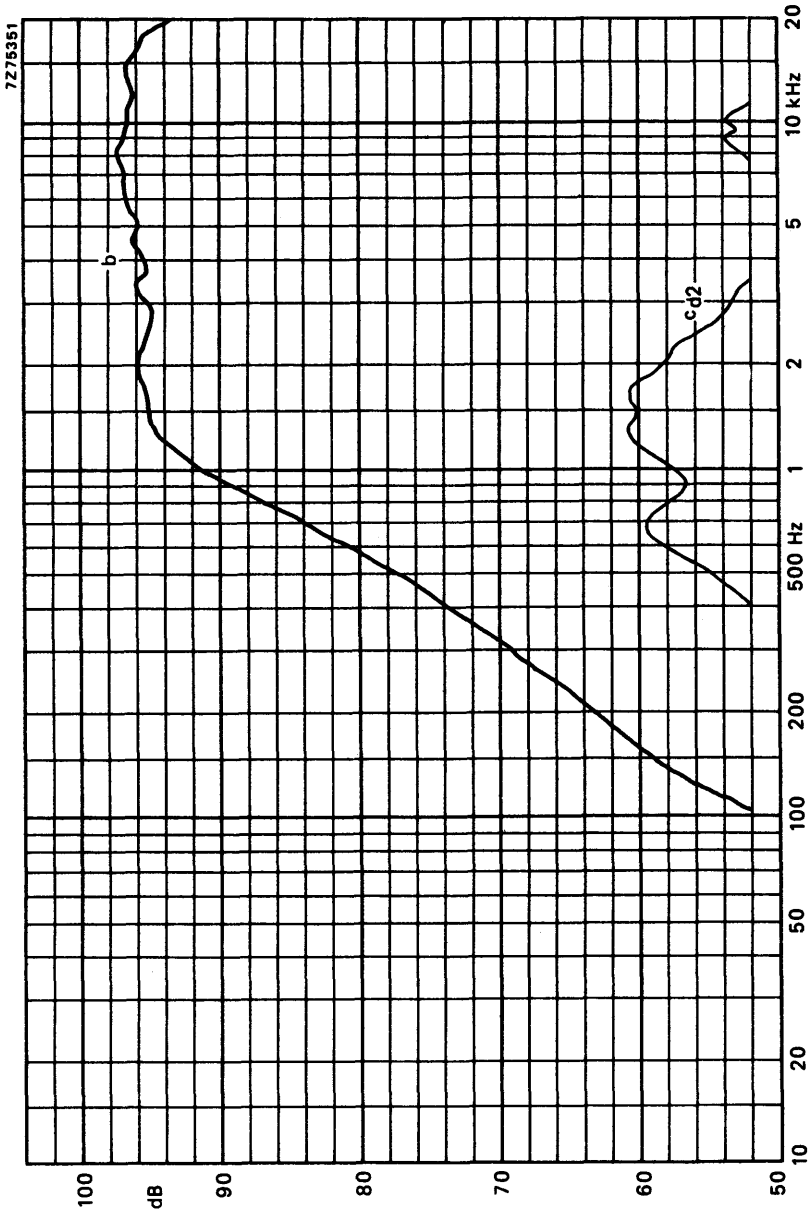

Fig.3
**FREQUENCY RESPONSE CURVES** (see Fig.3)